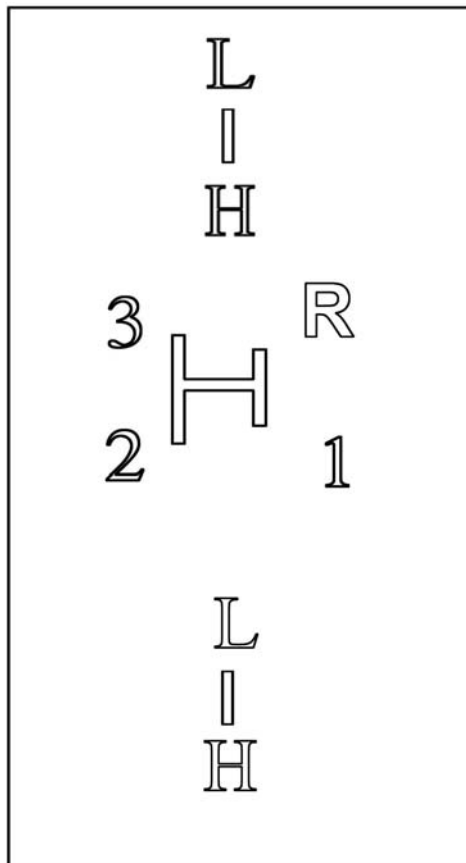

Fig.2-2 Diagram of shifting lever position
- 1) Auxiliary gear shifting lever: To control the auxiliary speed gear. (Fig.2-2).
- 2) Main gear shifting lever: To control the main speed gear. (Fig.2-2).